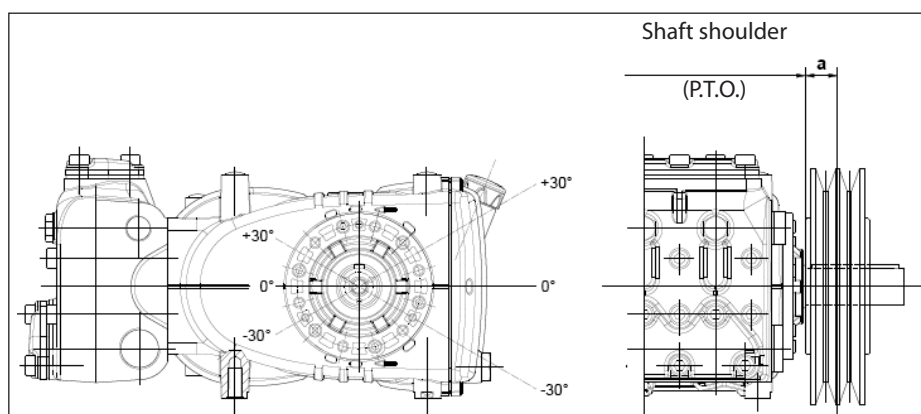

Fig. 10
The radial load on the shaft must not exceed 4500 N (value necessary for Layout definition). The transmission is considered adequate if the load is applied to a maximum distance $a = 50$ mm from the shaft shoulder (P.T.O) as shown in Fig. 10.
- b) Use high performance belts – for example **XPB** instead of **SPB** – as a lower quantity of belts for the same transmitted power may be necessary and a consequent shorter resulting distance compared to the shaft shoulder (P.T.O) "a" of Fig. 10.
- e) Follow the direction of the belt pull as shown in Fig. 10 for other needs, contact our **Technical** or **Customer Service Departments**.